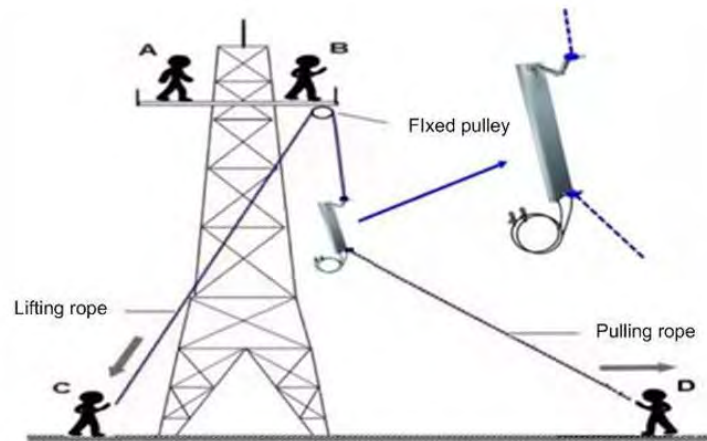

Figure 3-12 Transportation the Antennas in the Height
2. To install the antenna on the tower, pulleys are used to transmit the assembled antenna to the platform on the tower, as shown in Figure 3-12. Observe safety rules at these high levels of work.